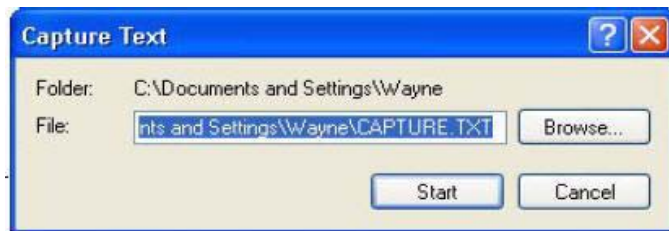

Figure 1 Capture Text Popup
3. To save the data from the boot process, at the **Hyper Terminal** window, select **Transfer > Capture Text**. The **Capture Text** popup will appear. (Figure 1)